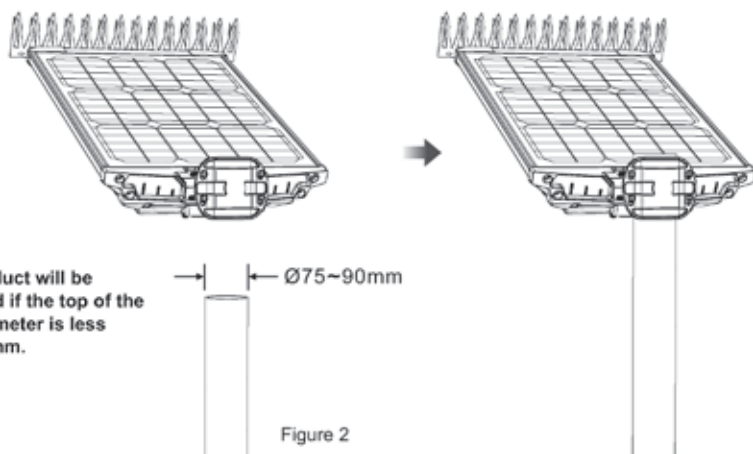

Figure 2
2. **Fit solar light onto pole and make sure it is securely fastened with M8 screws.** (See Figure 2). **The maximum torque for those M8 bolts is 14Nm.** Do not surpass this torque specification.